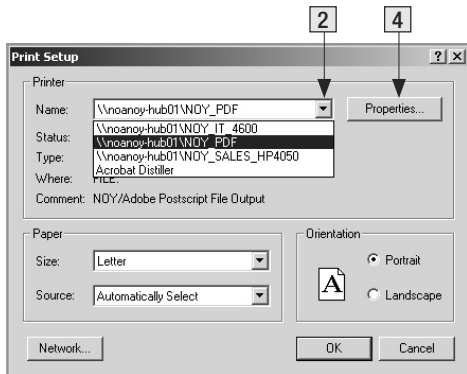

Figure 6-1: Print Setup Dialog Box.
- 1 From the [File] pull down menu, choose the [Printer Setup] command. The [Print Setup] dialog box will be displayed (see Figure 6-1).